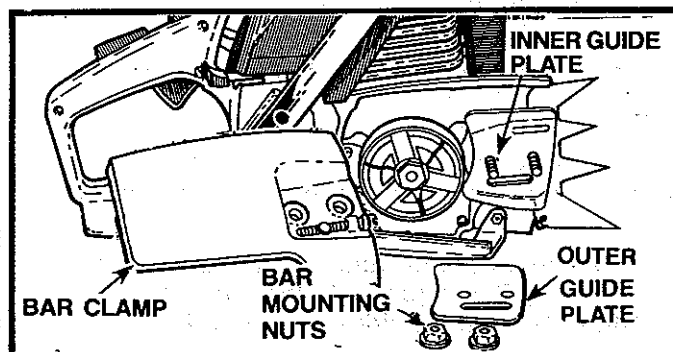

Figure 7
1. Install the Inner Guide Plate over the bar mounting studs. Figure 7.
9. Install the outer guide plate. Figure 7 .